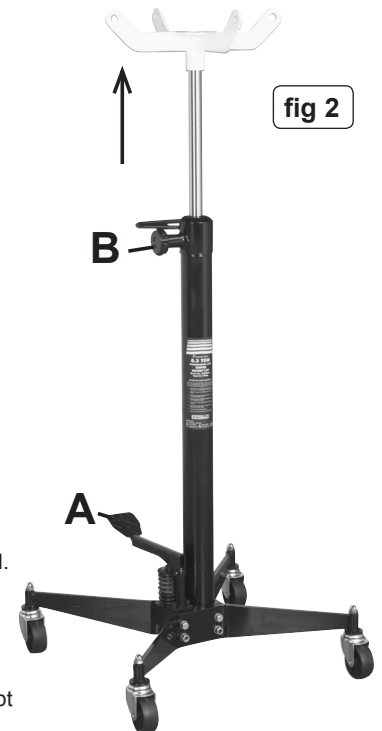

fig 2
- 4.2.1 Hold the jack release valve open by turning it anti-clockwise (fig 2.B).